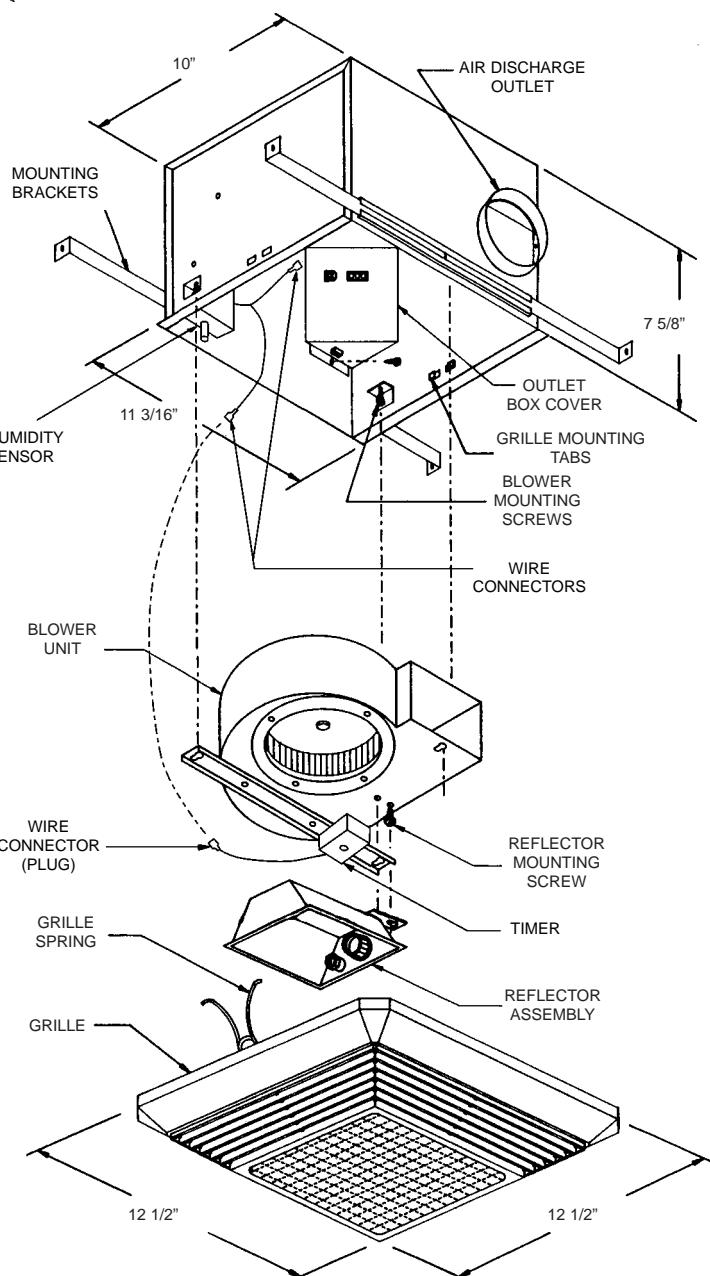

FIG. 9 MODELS:
1. Remove grille assembly from carton and set aside until needed. Remove reflector assembly from blower unit (MODELS: 7100L, 7100FLH, 7150FLH, 7150L, 7100FL, 7150FL, 8090L & 8100L) by pulling plug from receptacle, loosen mounting screws and remove through keyhole slot. Pull timer plug from receptacle if applicable. See Fig. 9.